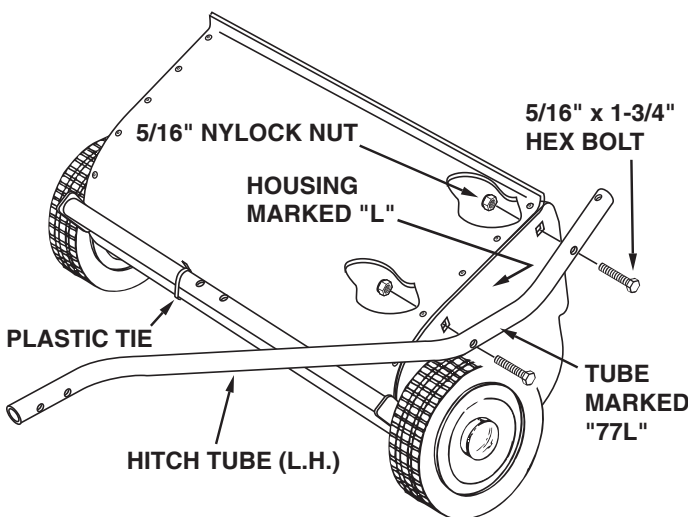
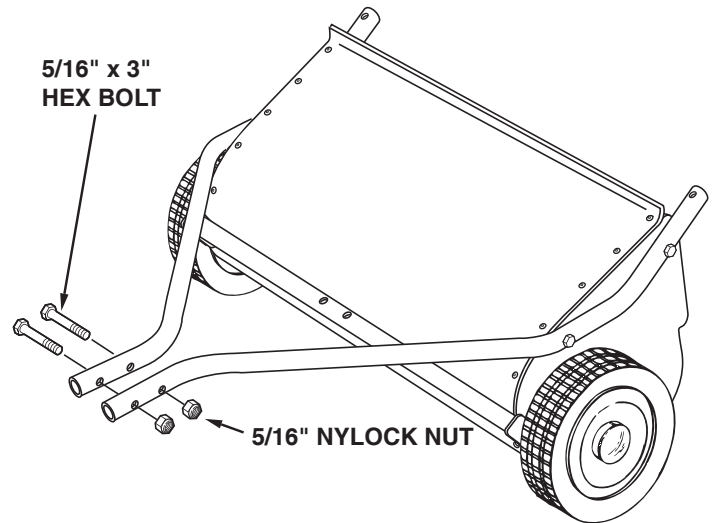
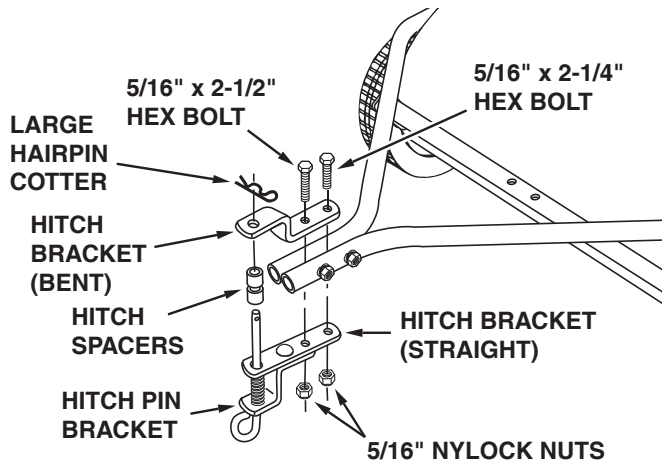

FIGURE 1
FIGURE 2
FIGURE 4
3. The hitch tubes are stamped with a "77L" for the left tube and a "76R" for the right tube. The sweeper housing is marked with an "L" on the left side and an "R" on the right side. See figure 1.
4. Hold the left hitch tube against the left side of the sweeper so that the "77L" on the tube faces away from the sweeper. Attach the hitch tube using two 5/16" x 1-3/4" hex bolts and 5/16" nylock nuts. Repeat for the right hitch tube, but with the "76R" facing in toward the right side of the sweeper. **Do not tighten yet.** See figure 1.
5. Remove the plastic tie that fastens the height adjustment tube to the front of the sweeper housing. See figure 1.
6. Fasten the hitch tubes together using two 5/16" x 3" hex bolts and 5/16" nylock nuts. **Do not tighten yet.** See figure 2.
- Place the bent hitch bracket on top of the hitch tubes and place the straight hitch bracket with hitch pin underneath the hitch tubes. Fasten together using a 5/16" x 2-1/2" hex bolt (front), a 5/16" x 2-1/4" hex bolt (rear) and two 5/16" nylock nuts as shown in figure 4. The bolts should straddle the front hitch tube bolt. **Do not tighten yet.**
- Assemble the two hitch spacers onto the hitch pin and secure the pin with the large hairpin cotter. See figure 4.
- At this time **tighten** the four bolts in figure 1 that fasten the hitch tubes to the sweeper housing. Next, **tighten** the two bolts in figure 2 that fasten the ends of the hitch tubes together. Finally, **tighten** the two bolts in figure 4 or 5 that fasten the hitch brackets to the hitch tubes.